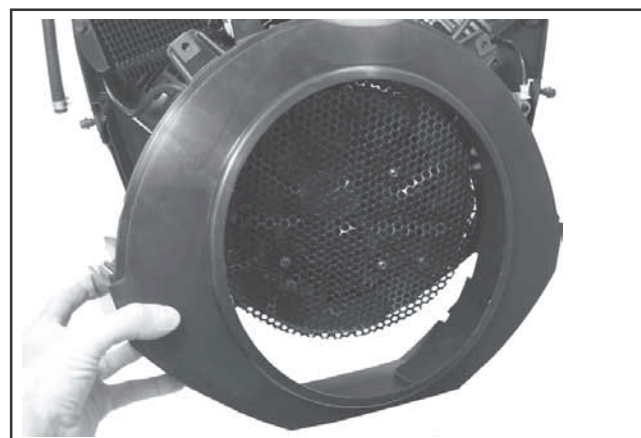

Figure 8-6. Removing Blower Housing.
2. Remove the four mounting screws and separate the blower housing from the lower half. See Figure 8-6.